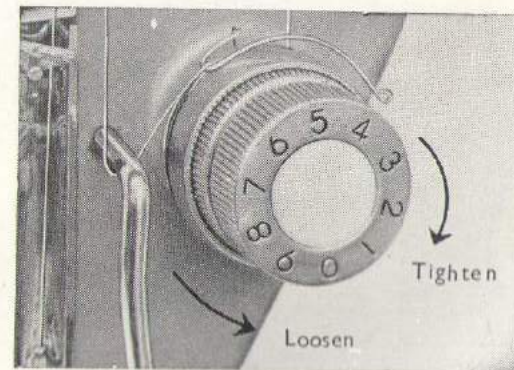

Fig. 16
**TO INCREASE** the tension, lightly turn the thread tension regulator (Fig. 16) clockwise.